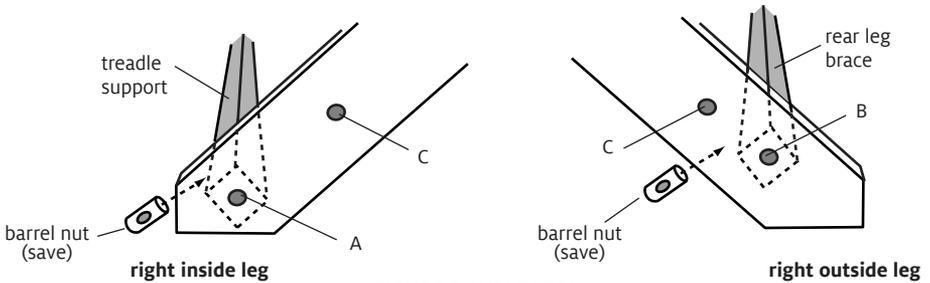

FIGURE 8: WOLF LEGS
2. Set the treadle support on a block of wood or a few books to elevate the loom front about two inches. Remove the machine screws and barrel nuts that hold the treadle support to the inside legs at hole [A] (Figure 8).
4. Set the rear leg brace on a block of wood or a few books to elevate the loom back about two inches. Remove the machine screws and barrel nuts holding the rear leg brace to the outside legs at hole [B] (Figure 8).